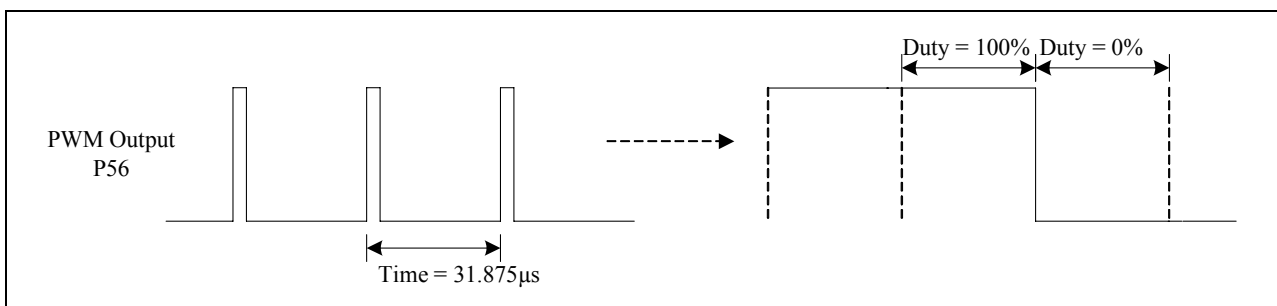

Figure 2 PWM Output Waveform
- An example of the output waveform is shown in Figure 2.